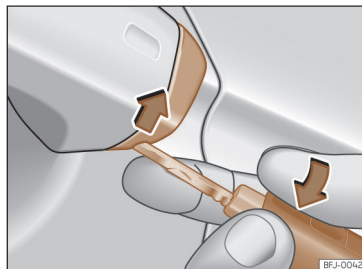

Fig. 51 Driver's door handle: pry the cover open.
- Insert the key shaft into the lower opening in the cover on the driver door handle then remove the cover upwards >>> **Fig. 51**.